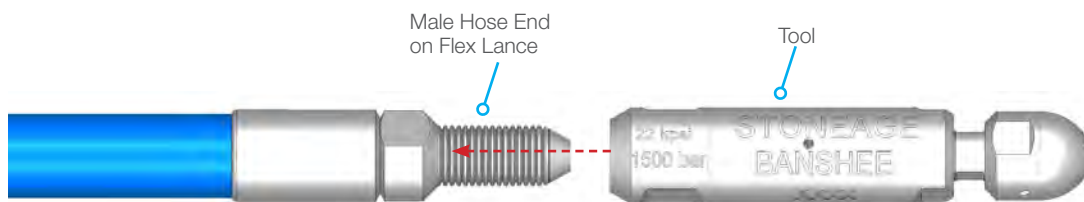

FIGURE 23
34. Attach the desired tool onto the Male Hose End on the Flex Lance. (Stoneage® BN15 Banshee® shown for reference). **(Figure 23)**